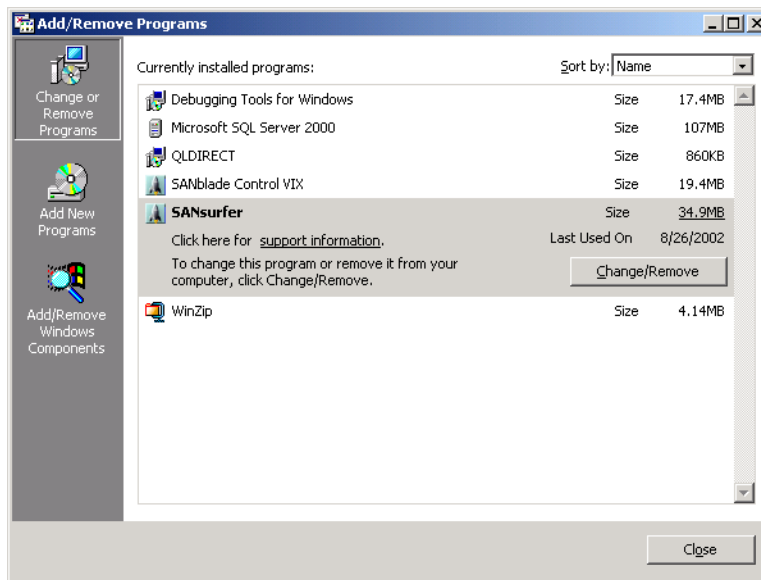

Figure 5-12. Add/Remove Programs Dialog Box (Windows 2000)
- c. The **Add/Remove Programs** dialog box displays (see figure 5-12). Click the **Change or Remove Programs** button (default).